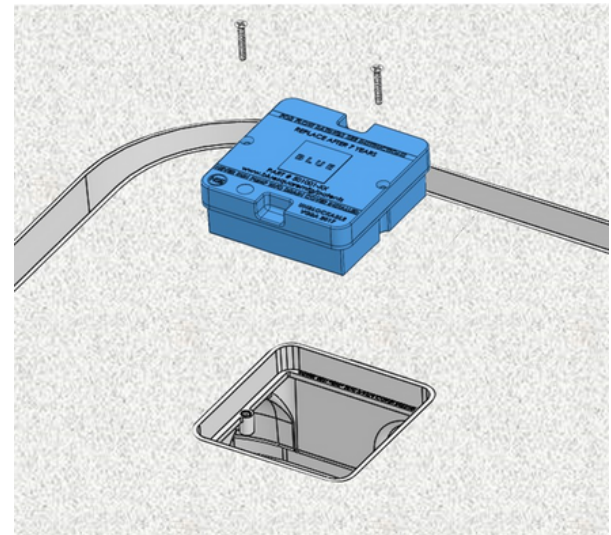

Figure 13
- c. Install Center Cap:** Install the provided Center Logo Cap with the provided screws, hand tightened to 10 in-lbs torque max, prior to filling the pool with water. (See Figure 13).